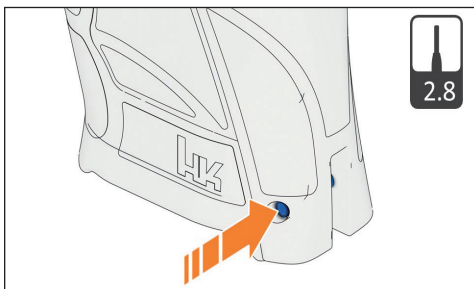

Figure 34 – Drive out clamping sleeve for backstrap
2. Extract clamping sleeve for backstrap using pin punch (Fig. 34).